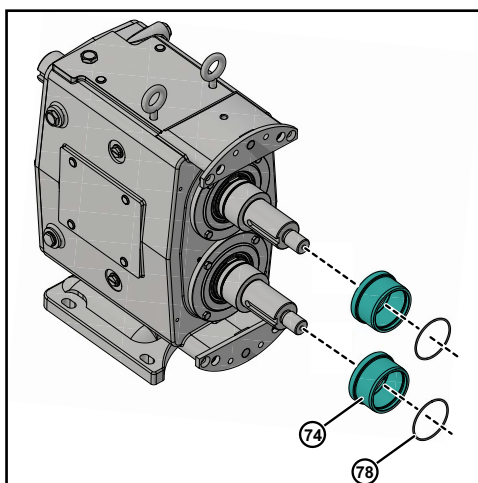

Figure 117 - Install Sleeves and O-rings
1. Lubricate the two sleeve O-rings (78) with a lubrication compound compatible with the O-ring material and process fluid(s). Install the sleeve O-rings (78) into the groove of the sleeve (74),
2. Install the two sleeves (74) on the shaft, as shown in Figure 117.